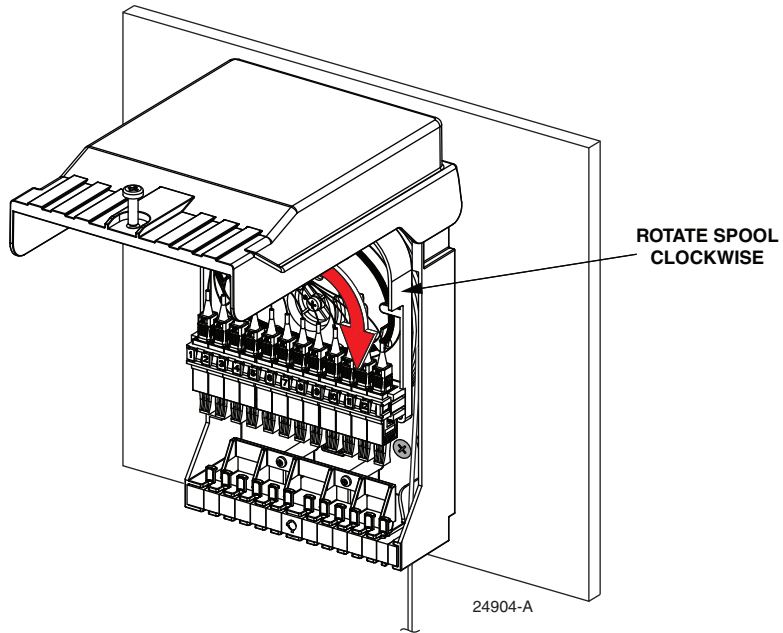

Figure 12. Paying Out the MPO Cable
► **Note:** After installing pulling eye, slide MPO between entrance foam at the bottom or left side of the RDT. Pull MPO cable with pulling eye to the termination location. RDT rotates clockwise as cable is payed out. See Figure 12.